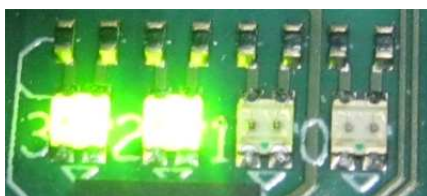

Figure 11 LED[2] Blink when test speed is too much
- LED[2] will be blink as shown in Figure 11, if test speed is too much (faster than SATA device performance). In this case, please change DIPSW[6:5] to reduce speed value.